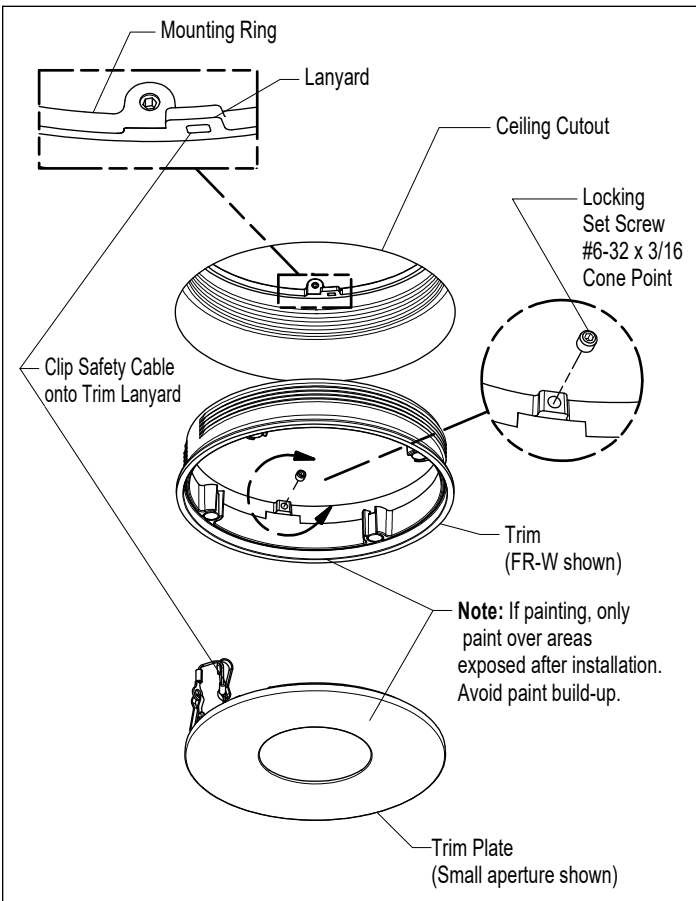
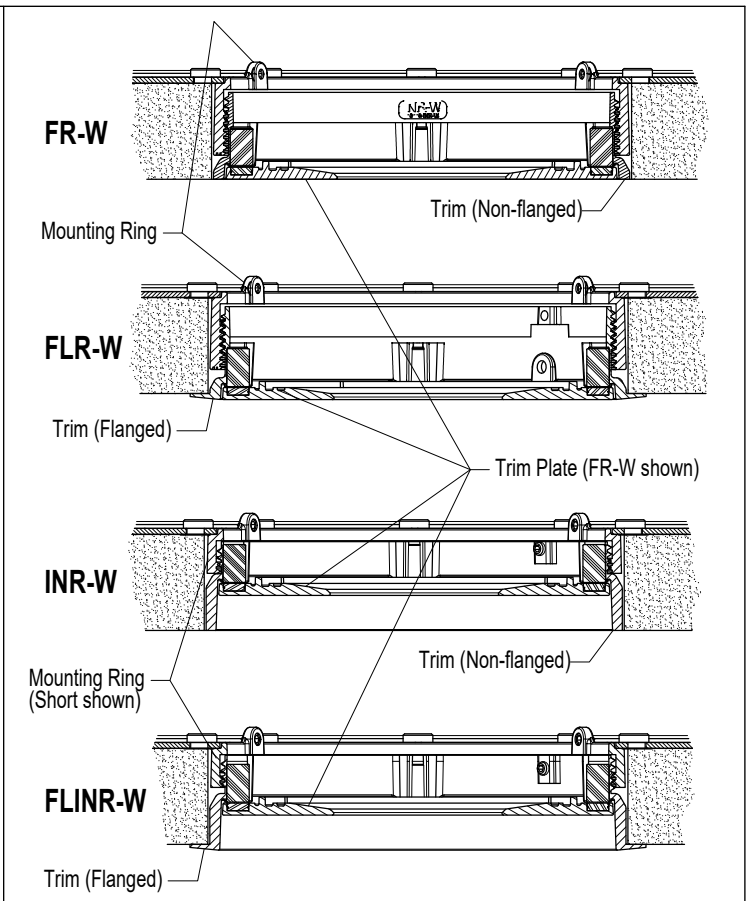

FIG 3.3 Install Trim & Trim Plate
FIG 3.5 Ceiling Section Views
- STEP 4** If required, paint Trim & Trim Plate (see note in FIG 3.3).
- Note:** After Trim installation (FIG 3.3) the Mounting Ring may need to be rotated to align the Trim - See Page 4, FIG 4.1, 4.2 & 4.3.
- STEP 6** Thread Trim into Mounting Ring. For FR-W & INR-W versions, adjust height to be level with ceiling. For FLR-W & FLINR-W versions, flange must seat flush to ceiling - FIG 3.3 & FIG 3.5.
- STEP 8** Attach Trim Plate Safety Cable to Mounting Ring - FIG 3.3.